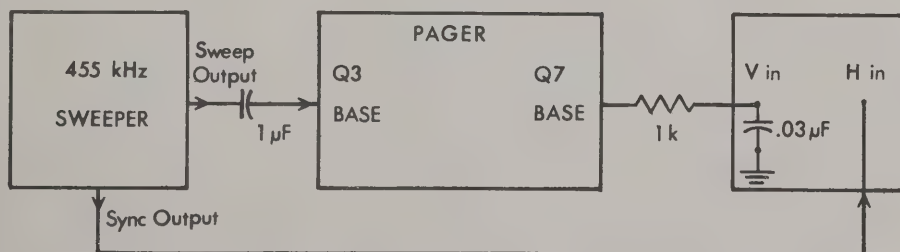

FIGURE 8
- (a) Connect the sweep output to base of transistor Q3 as shown in Figure 8.
- (b) Connect the vertical input of the scope to the base of Q7 as shown in Figure 8.